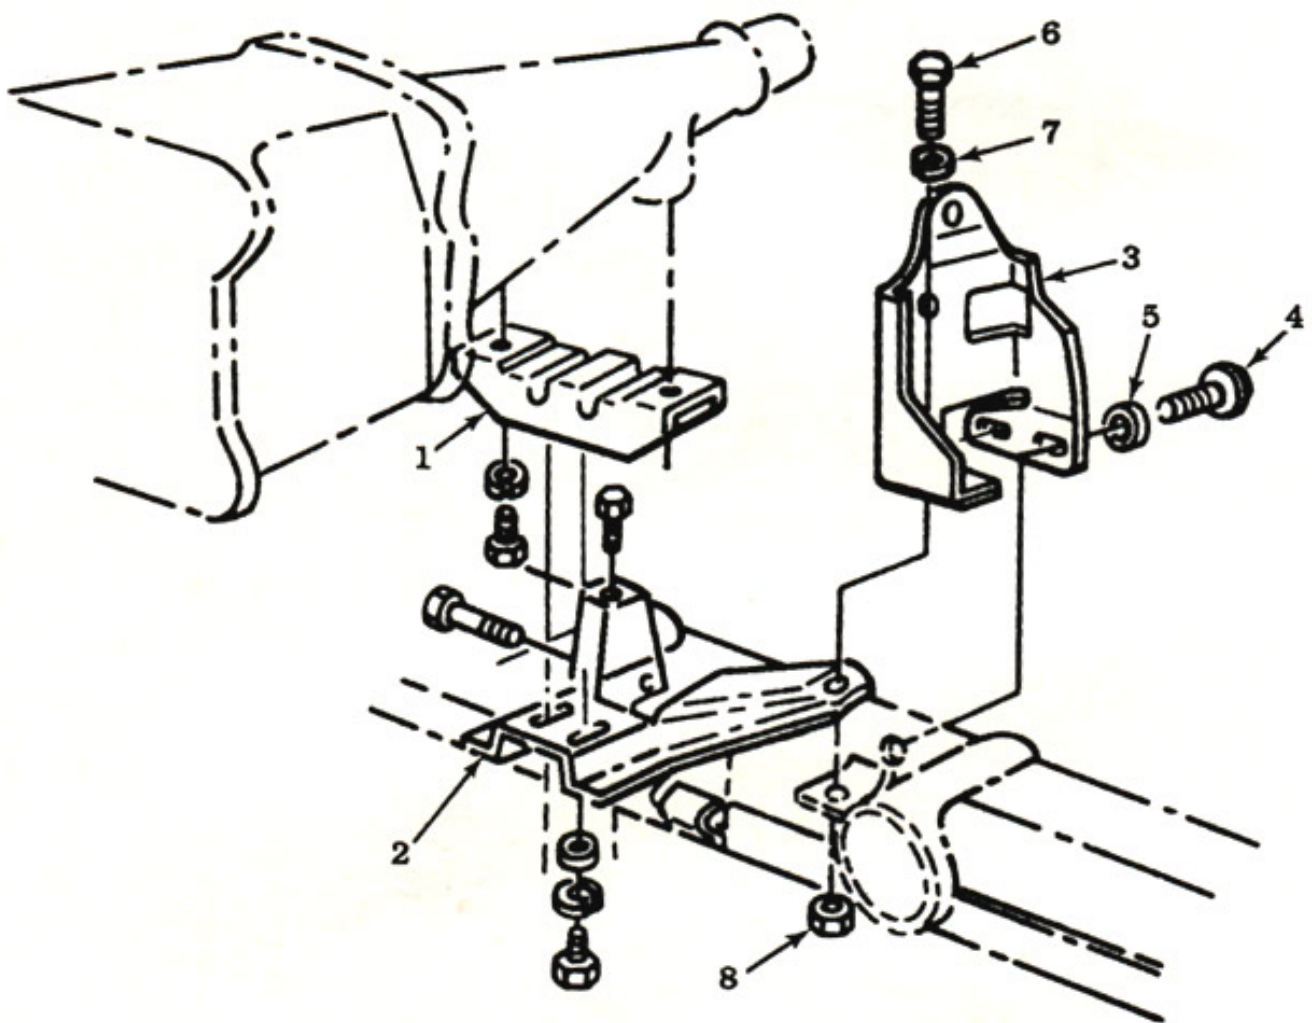

FIGURE 2
2. Position jack stand under transmission and remove transmission mounting assembly and bracket. (See fig. 2, items 1 and 2.)
9. Loosely install bolt through front leg of new bracket through mounting tab on front of crossmember (center in slot). (See fig. 2, item 6.)
12. Loosely install new bracket using two 5/16" self-tapping screws and washers at rear attachment. (See fig. 2, items 4 and 5.)